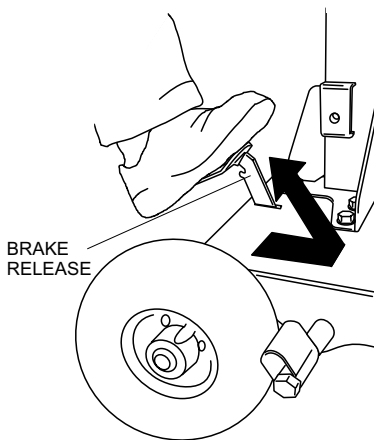

Figure 14. Releasing Brake
1. Step on the brake pedal, hold then release. See Figure 14. This will disengage the braking mechanism and will allow the GBC/GBCE to be moved.